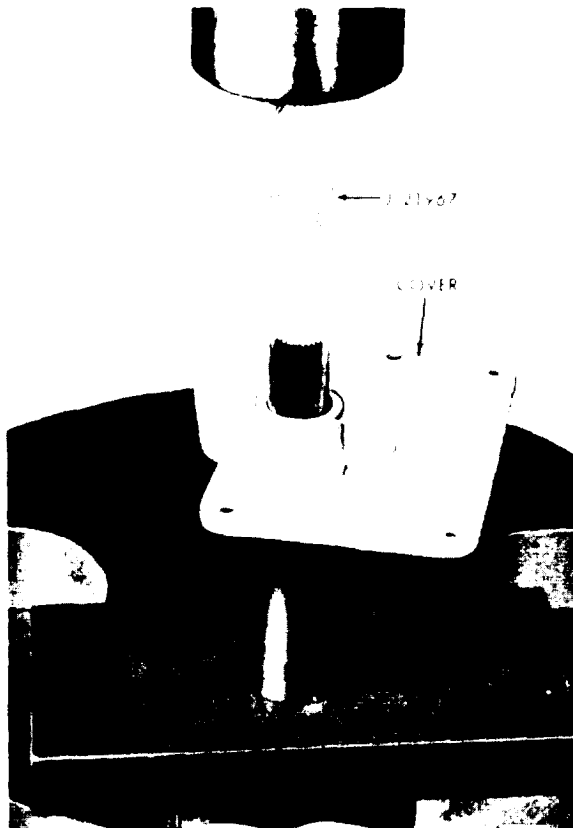

Figure 11C-63. Removing Bearings from Cover Using J 23967-01
A. Place the control housing in the soft jaws of a vise (see Figure 11C-64 or page 11C-38)